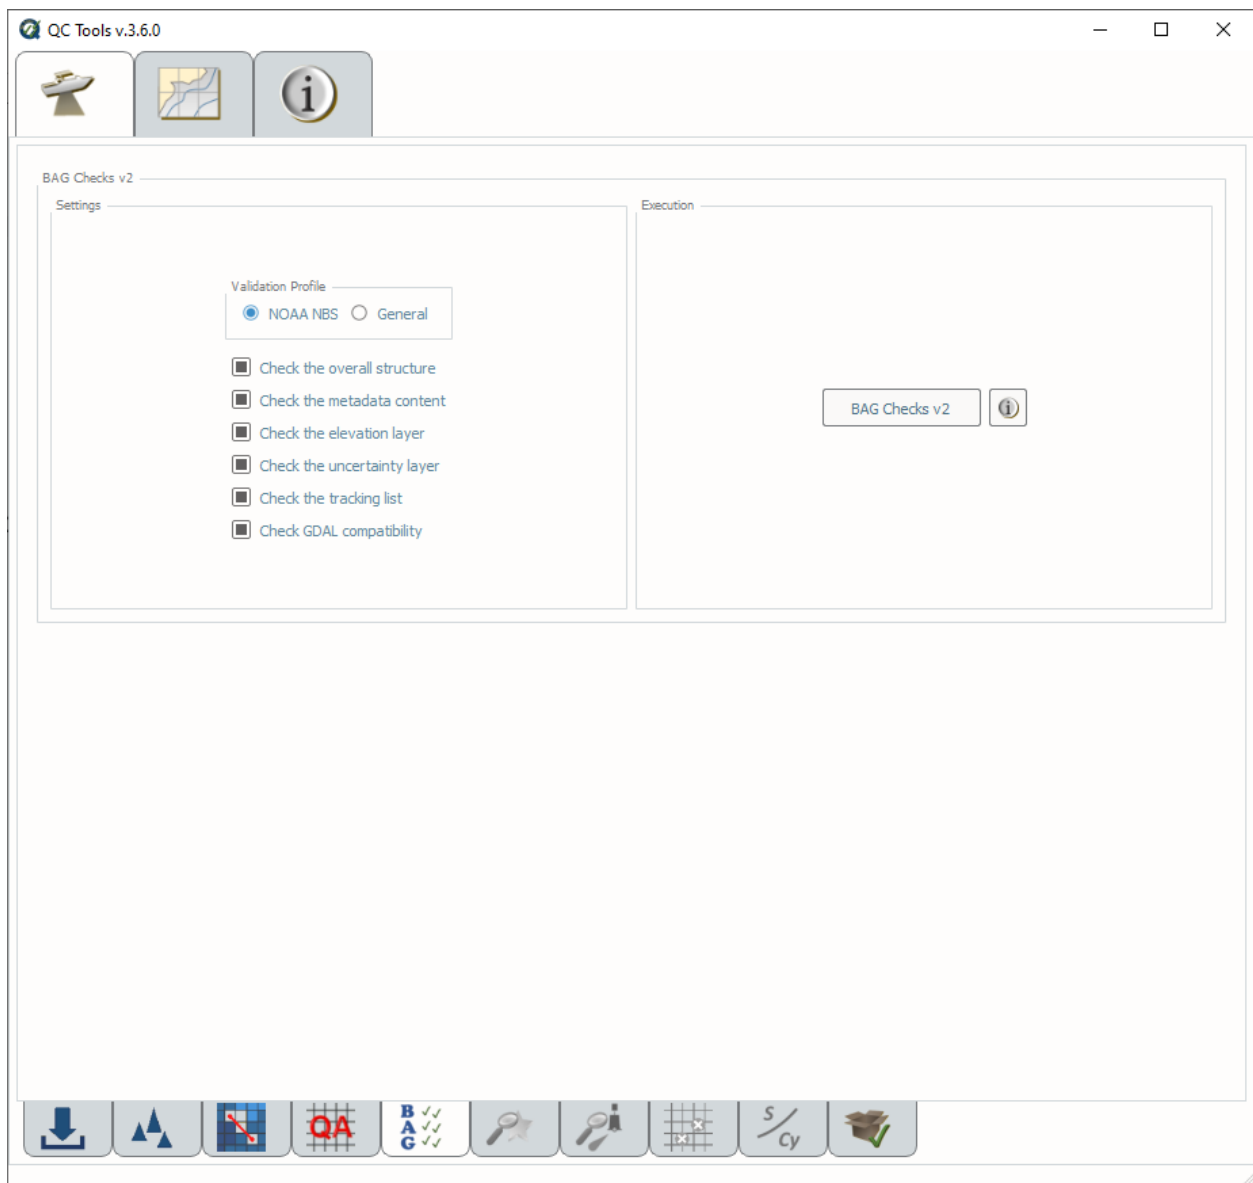

Fig. 2.35: The **BAG Checks** tab.
- Select the **BAG Checks** tab (Fig. 2.35) on the bottom of the QC Tools interface.